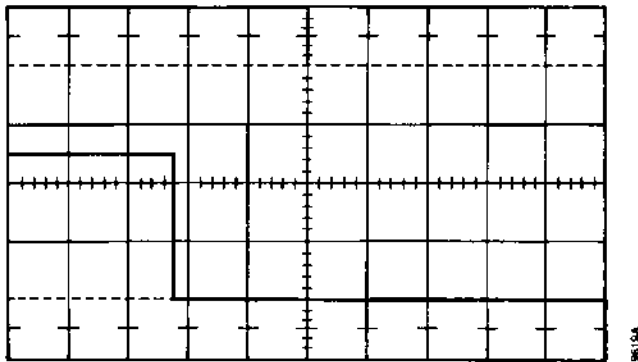

Figure 4-13. Data Separator One-Shot Alignment Waveform
7. Monitor the data separator one-shot (see Figure 4-13).